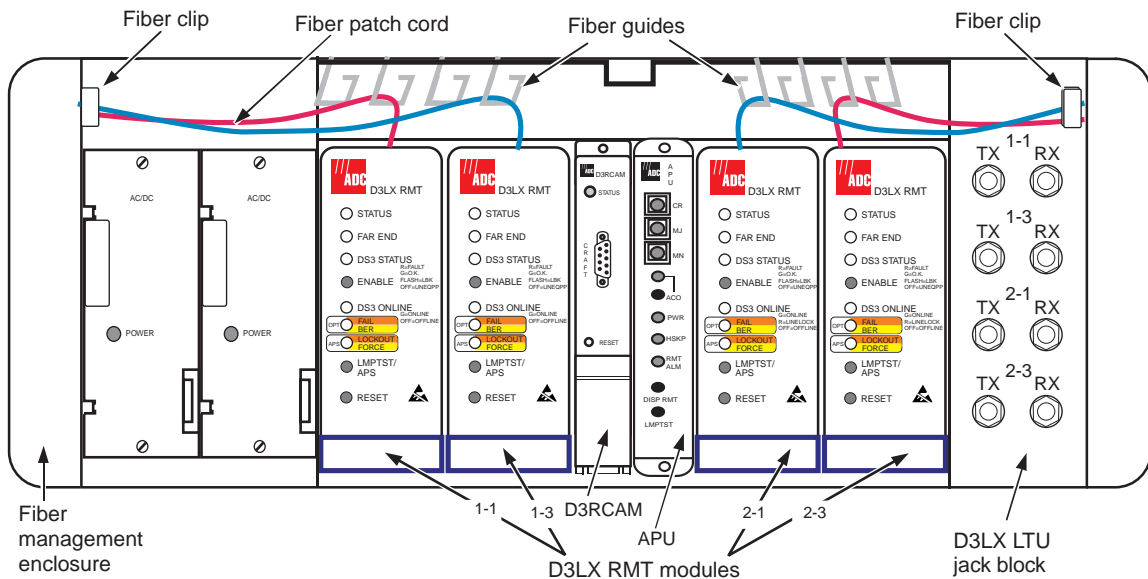

Figure 9. D3LX RMT Module Locations in a Four-Position Remote Terminal Cabinet
- 4 Refer to Figure 9 for D3LX RMT module locations chassis and slot corresponding to the DS3 signal.
- 4 On the APU, as shown in Figure 9 on page 15, press the LMPTST/APS pushbutton. Did all D3LX RMT indicators light?